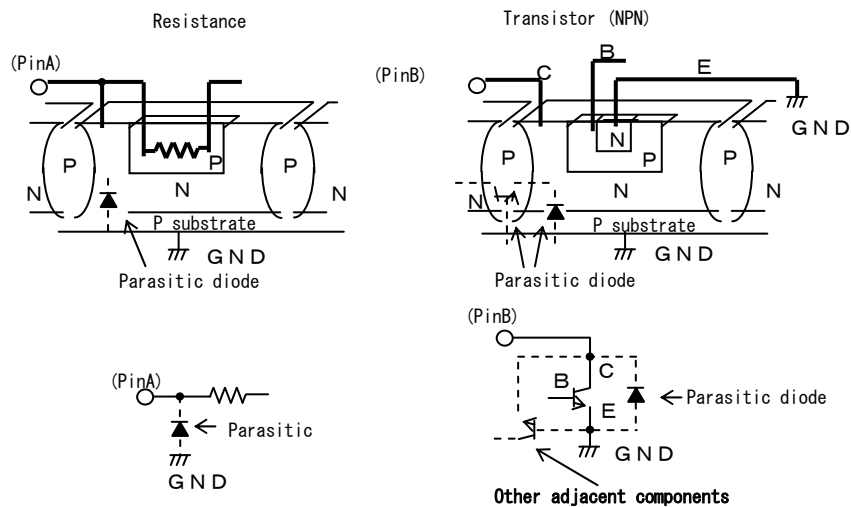

Fig.4. Simplified structure of a Bipolar IC
12. This IC is a monolithic IC which (as shown is Fig.4)has P⁺ substrate and between the various pins. A P-N junction is formed from this P layer of each pin. For example, the relation between each potential is as follows,